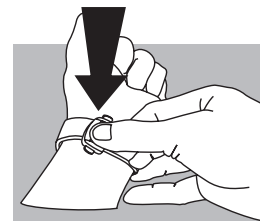

fig. 2
### How to use the helium escape valve? (fig.2)
**Closing (fig. 2):** put the watch on your wrist and close the clasp by pushing on it with your thumb until you hear a click. (fig. 2).